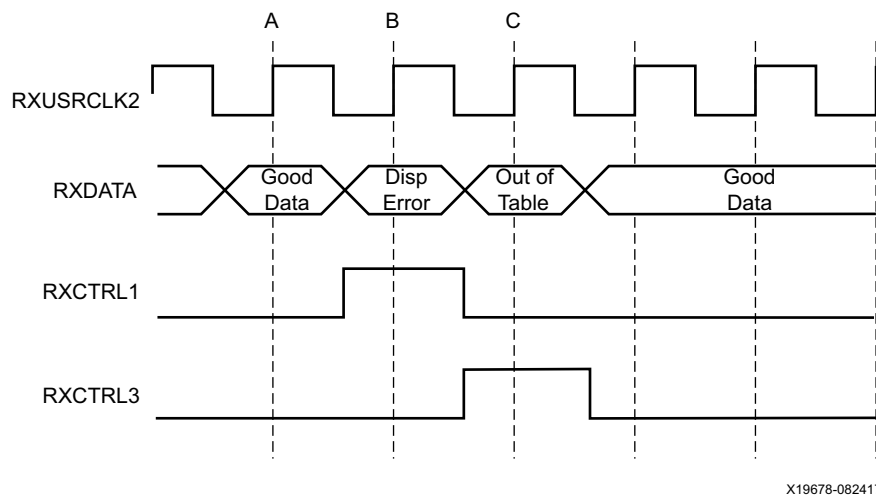

Figure 4-31: RX Data with 8B/10B Errors
Figure 4-31 shows a waveform at the RX data interface when the decoder receives good data (A), data with disparity error (B), and an out-of-table character (C).